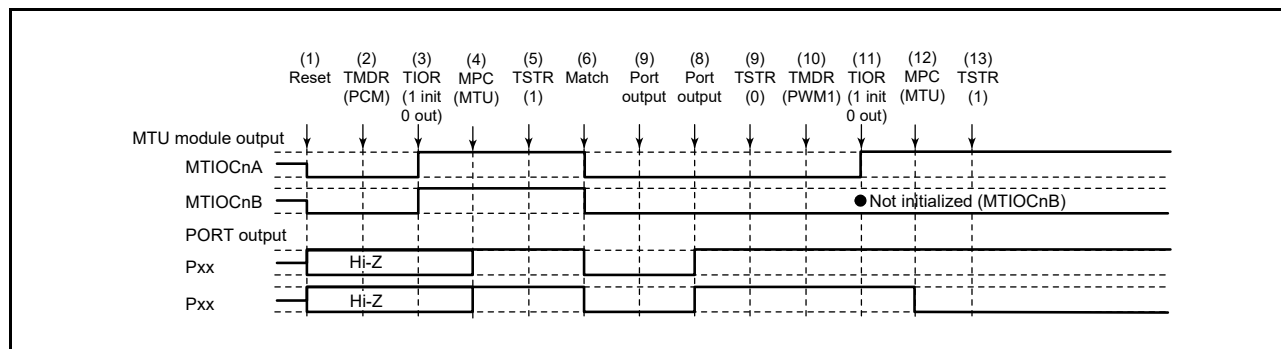

**Figure 24.170 Error Occurrence in Phase Counting Mode, Recovery in Normal Mode**
Figure 24.170 shows a case in which an error occurs in phase counting mode and operation is restarted in normal mode after re-setting.
(1) to (9) are the same as in Figure 24.170.
(10) Set PWM mode 1.
(10) Set PWM mode 2.
(10) This step is not necessary when restarting in phase counting mode.